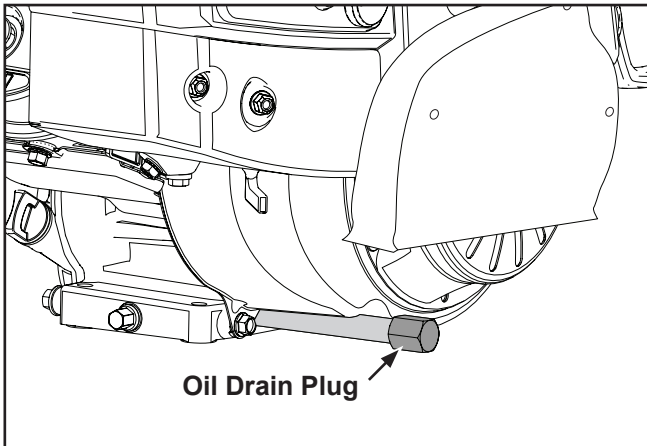

Figure 16. Oil Drain Plug Location.
3. Reinstall the oil drain plug and tighten to 9-13.5 N·m (80-120 in. lb.). See Figure 16.